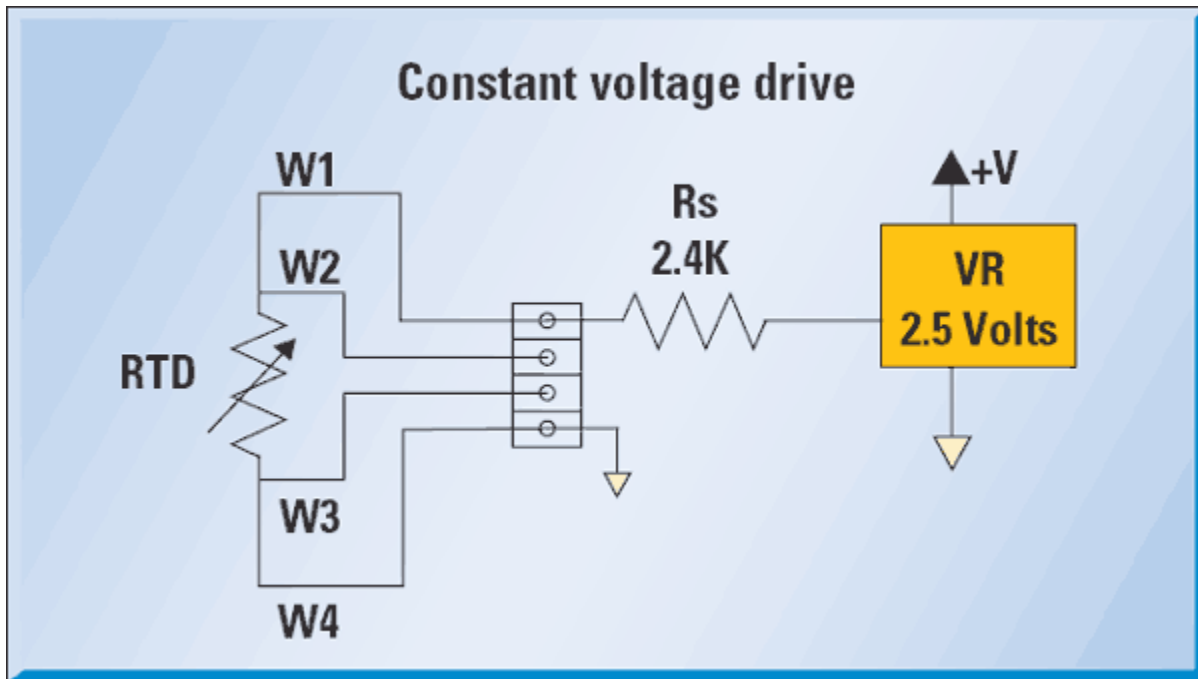
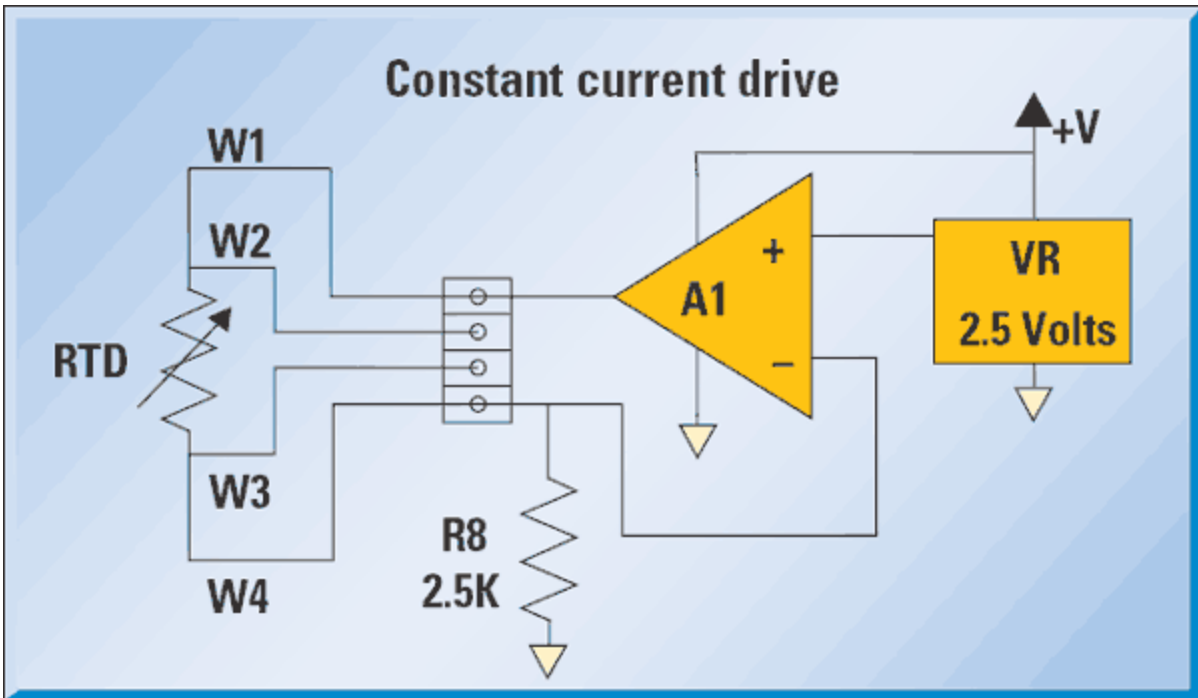

Figure 2
Figure 3
The schematics in *Figure 2* and *Figure 3* show two alternatives for exciting the PRTD. *Figure 2* uses a constant-voltage source and a series resistor to set the current through the PRTD to a specific level at a specific temperature. In this example, the current is set to 1 mA at 0°C ( $2.5V/(100W + 2400W) = 0.001A$ ). This ignores the resistance of the leads W1 and W4. The voltage on the sense leads, W2 and W3, the result of a voltage divider, is  $V_{PRTD} = VR \times (R_{PRTD} / (R_{PRTD} + 2400W))$ .
*Figure 3* uses a constant-current source. As long as the combined voltage of the leads drop, the PRTD and R8 does not exceed the maximum output swing of amplifier A1, and 1 mA will flow through the PRTD. The voltage on the sense leads, W2 and W3, is  $V_{PRTD} = 0.001 \times R_{PRTD}$ .